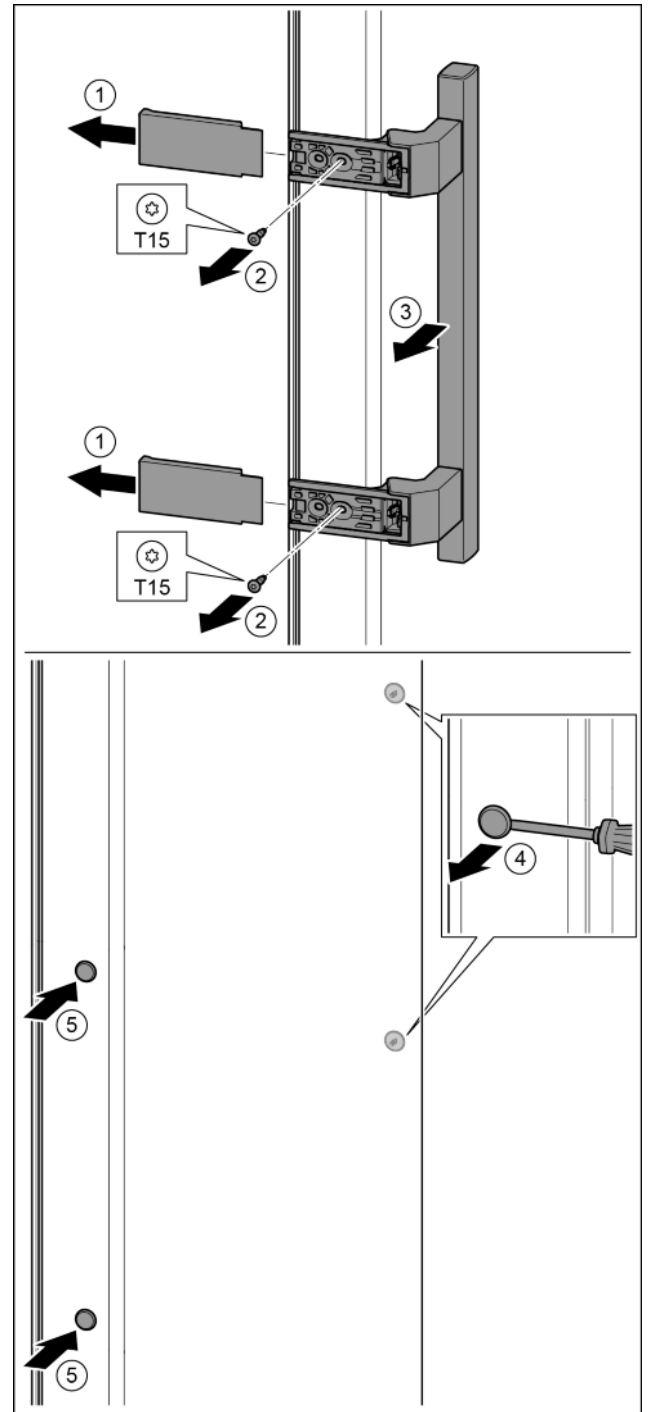

Fig. 18
- Pull off the cover. Fig. 18 (1)
- Remove the screws with the T15 screwdriver. Fig. 18 (2)
- Remove the handle. Fig. 18 (3)
- Carefully lift up the side plugs with a slotted screwdriver and pull them out. Fig. 18 (4)
- Insert the plugs again on the other side. Fig. 18 (5)